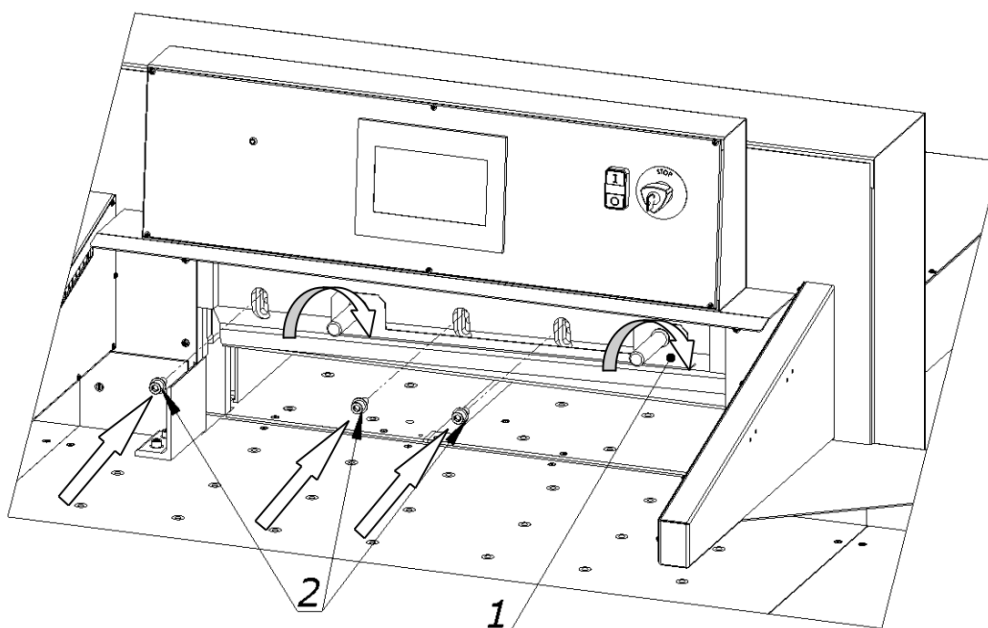

Figure 32
8.1.2.4 Pre-attach the knife to the cutter bar by turning both transporting handles 1 to the right (fig. 32).
8.1.2.5 Install the fastening screws 2 (fig. 32).
8.1.2.7 Slightly unscrew the first screw on the left side of the clamping screw 2 (Fig. 32), taking care that the screw head does not protrude above the knife beam sliding plane.
8.1.2.19. Firmly tighten the first screw on the left side of the knife. 2 (Fig. 32).